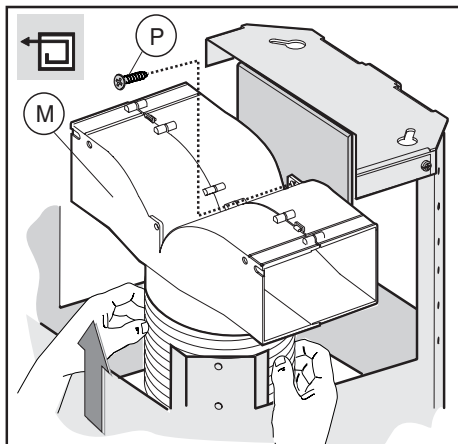
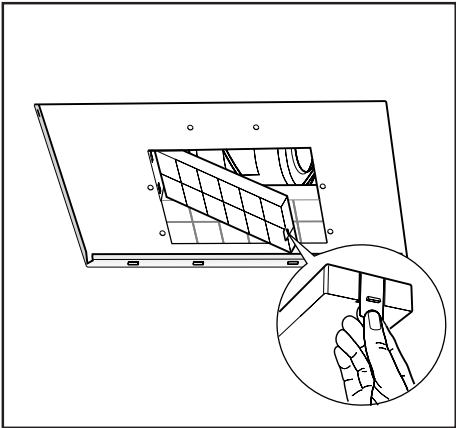

Fig.8
Fig.17
- **Recirculating version:** fix the flexible pipe to the deflector **M** and fix screw **I** as indicated in (Fig.8), the active carbon filters must be applied to the suction unit positioned inside the hood (Fig.17).